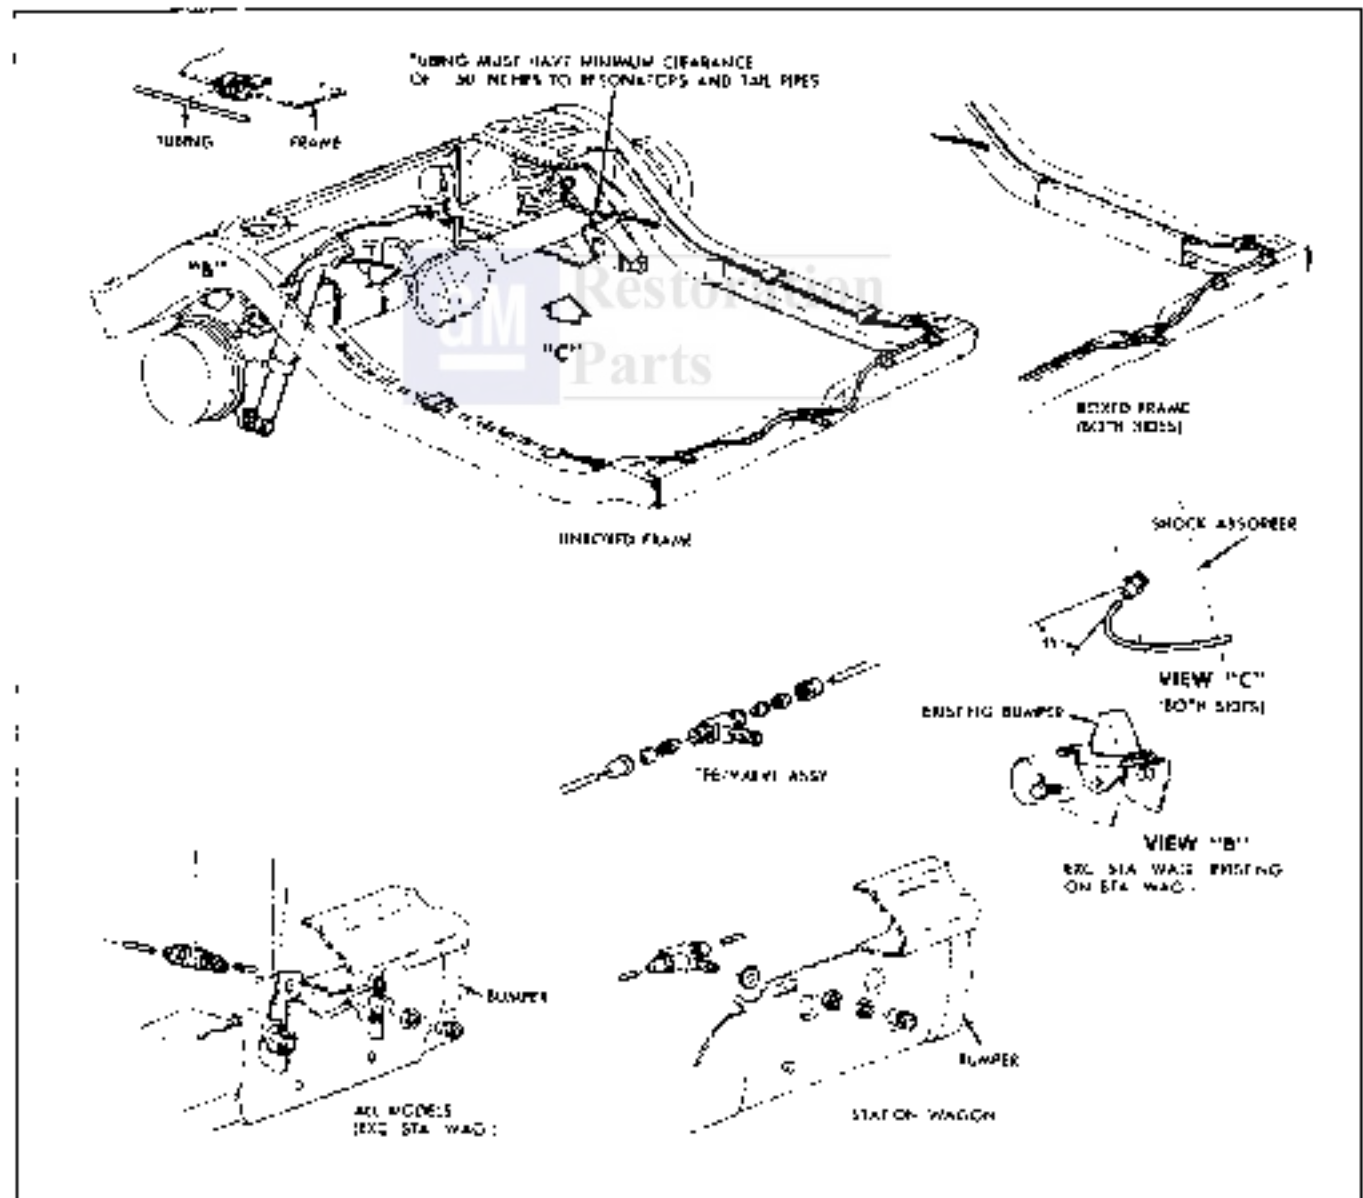

Fig. 4-19 Tempest Superlift Shocks
6. If necessary, remove rocker and swivel arms. Grip pin with pliers and remove pin (Fig. 4-19).